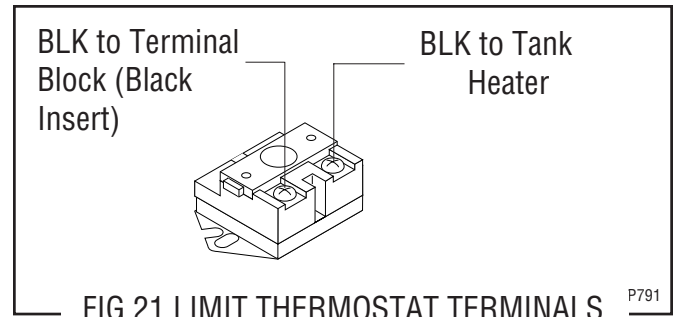

FIG. 21 LIMIT THERMOSTAT TERMINALS
4. Refer to Fig. 21 when reconnecting the wires.